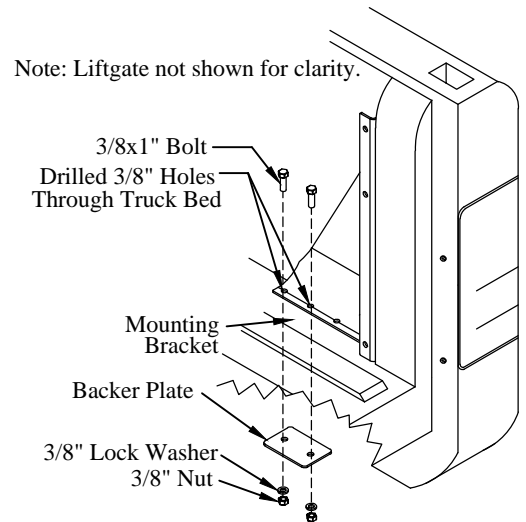

Figure 8: Mounting bracket and backer plates.
7. **Drill** two (2) 3/8" holes into the truck bed floor using two adjacent holes in the bracket as a guide (Figure 8).
8. **Fasten** each bracket to the truck box using the supplied (Figure 8):